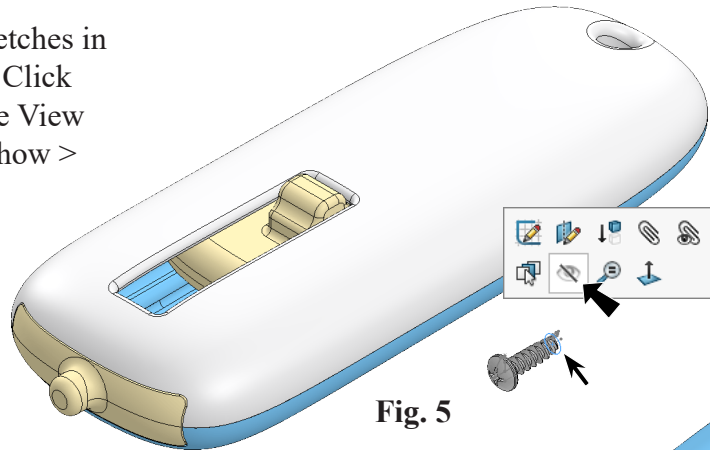

Fig. 5
Step 4. Place Screw as positioned in **Fig. 5**.
Step 6. Hide all the sketches in Screw, **Fig. 5**. Click **Hide** or use **View Menu . Hide/Show > Sketches**.